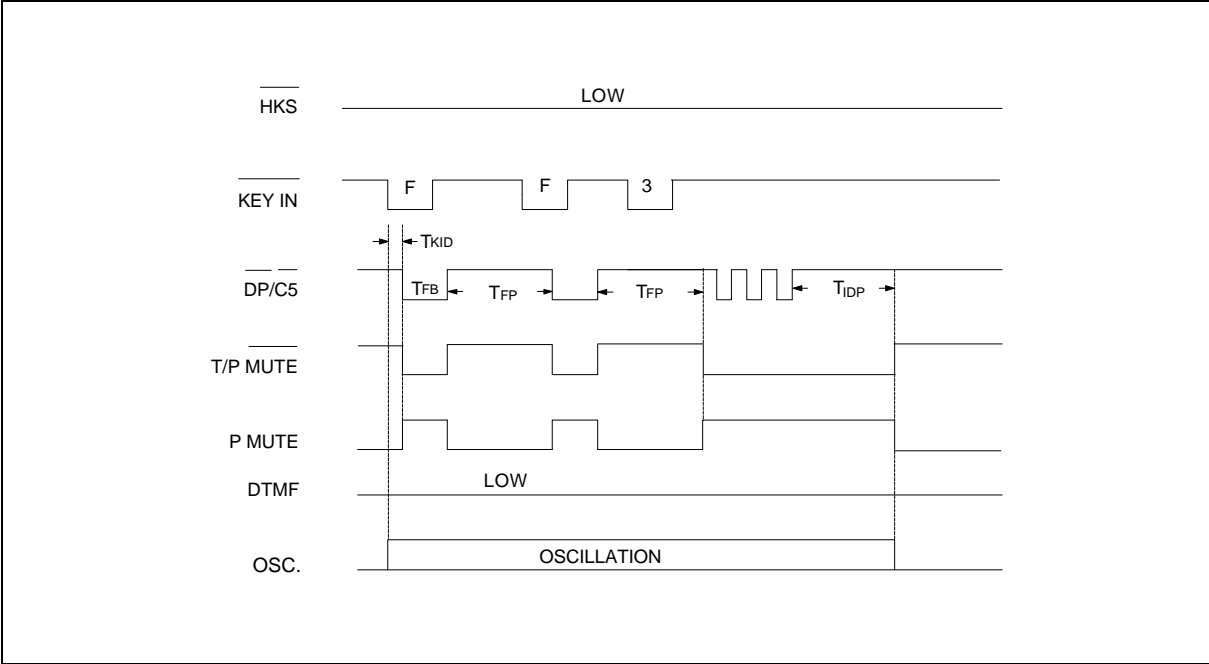

Figure 5. Flash Operation Timing Diagram
- The flash pause time is 800 mS, so there is a pause of 800 mS between the flash and the next digit dialed (see Figure 5).
- The flash function timing diagram is shown in Figure 5.